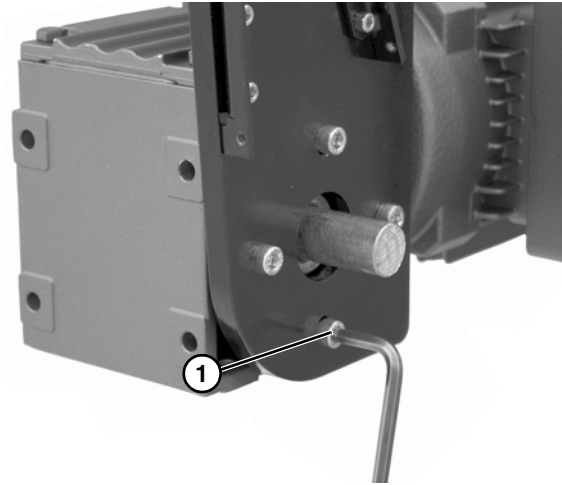

Figure 27
5. Remove four (4) mounting screws (**Figure 27, item 1**) and remove gearmotor.